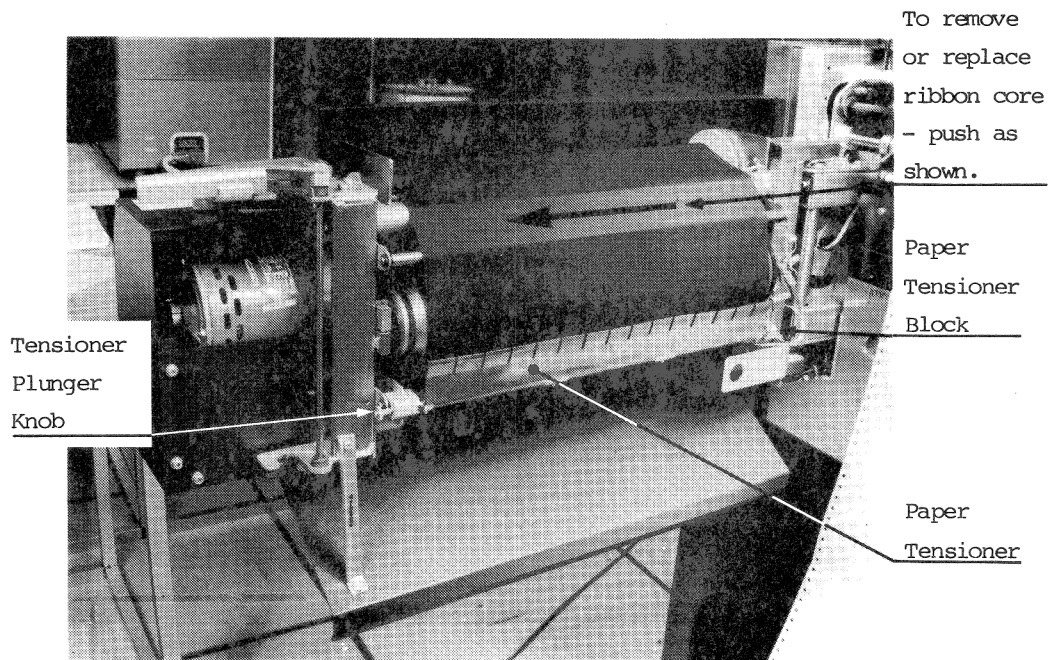

Figure 9: Drum and ribbon assembly.
2. Holding the paper tensioner with one hand (see fig. 9), pull the paper tensioner plunger knob, and remove the paper tensioner from drum gate.